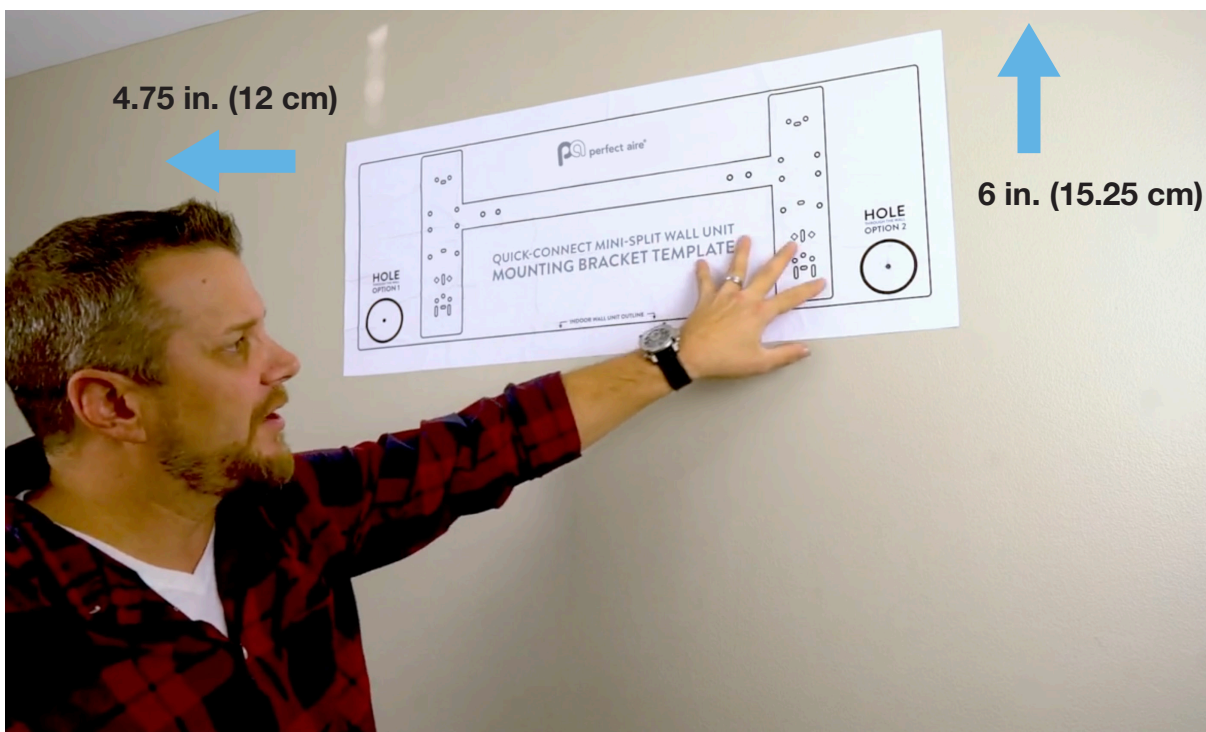

Figure 1.1
- On an exterior wall, at least 6 inches (15.25 cm) from the ceiling and 4.75 inches (12 cm) from adjacent wall (refer to Figure 1.1).